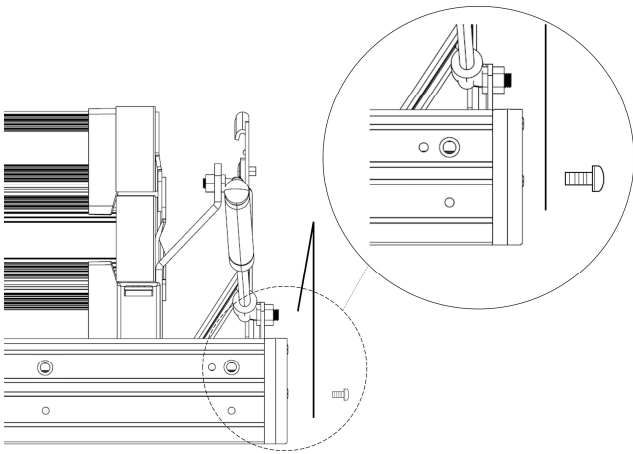
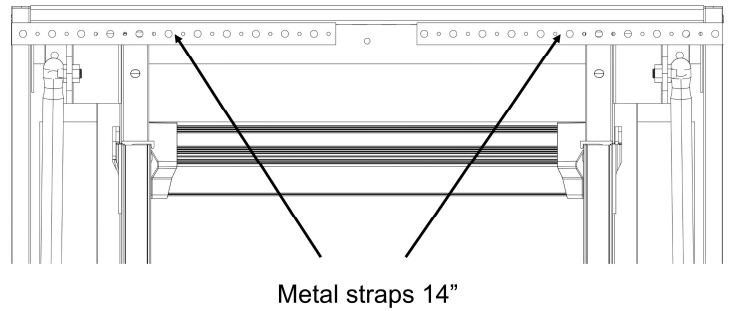
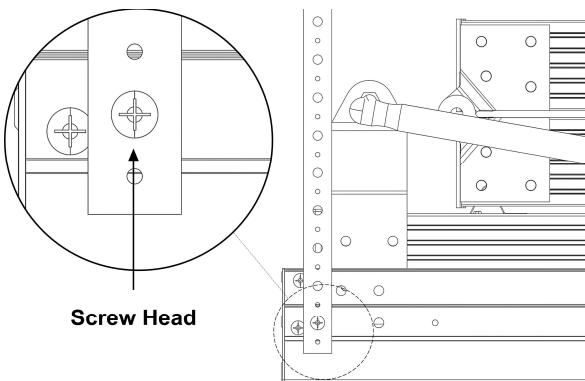

FIGURE 5 : STRAP INSTALLATION
FIGURE 7: STRAP POSITION
FIGURE 6: STRAP POSITION
C. Carefully unfold the 14" metal straps, these could have sharp edges. Place a #10 3/8" Phillips screw through the **bottom** 1/4" diameter (large) strap hole. Position a metal strap against the side of aluminum frame over the predrilled hole as shown in **Figure 5** and **Figure 6**. **DO NOT** let the metal straps extend below the aluminum frame. See **Figure 8**. Hold the metal strap securely to prevent rotation of the strap while screwing it to the aluminum frame.
E. Position both straps vertically as shown in **Figure 6**. Fold both straps inward over the climbing section and out of the way. See **Figure 7**.